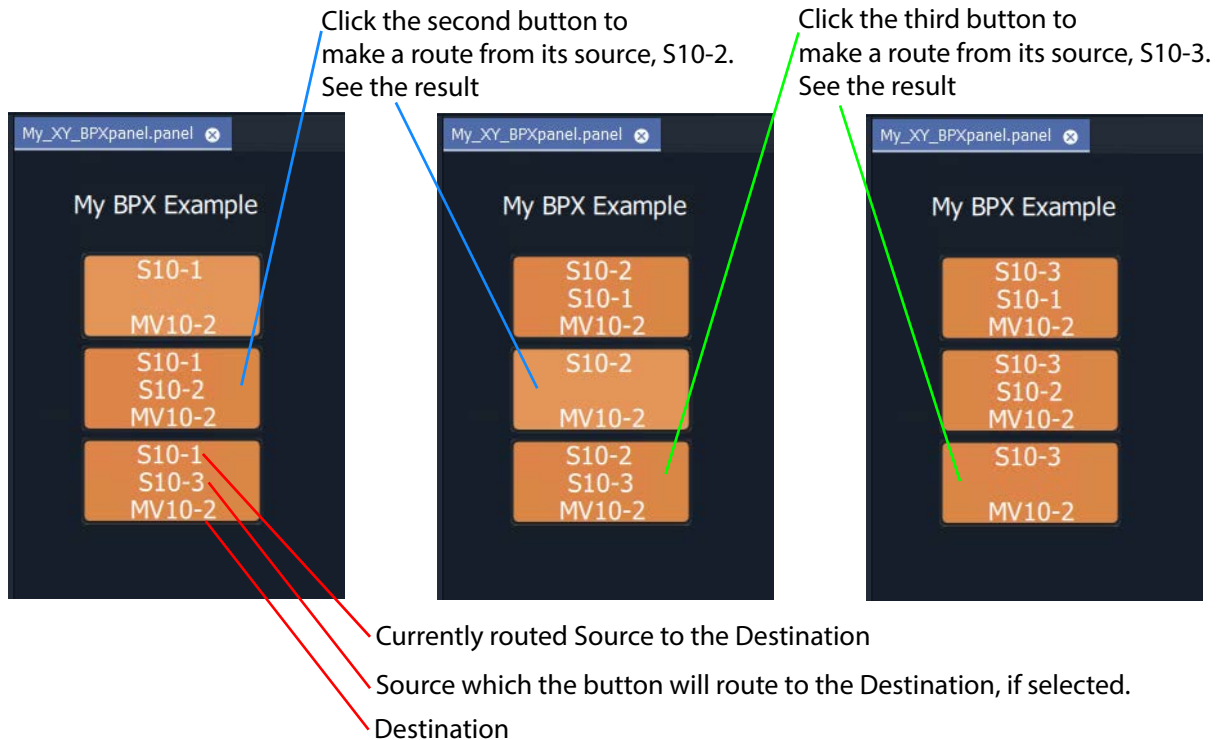

Fig. 14-54: BPX Panel Running
- 2 Operate the panel. See Figure 14-54.